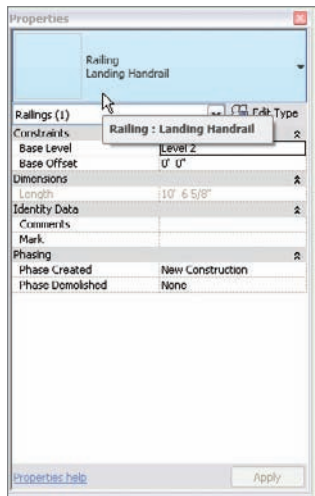

FIGURE 10.51 Setting the Landing Handrail type
2. In the Properties dialog, change the type to Landing Handrail (if it is not already), as shown in Figure 10.51.